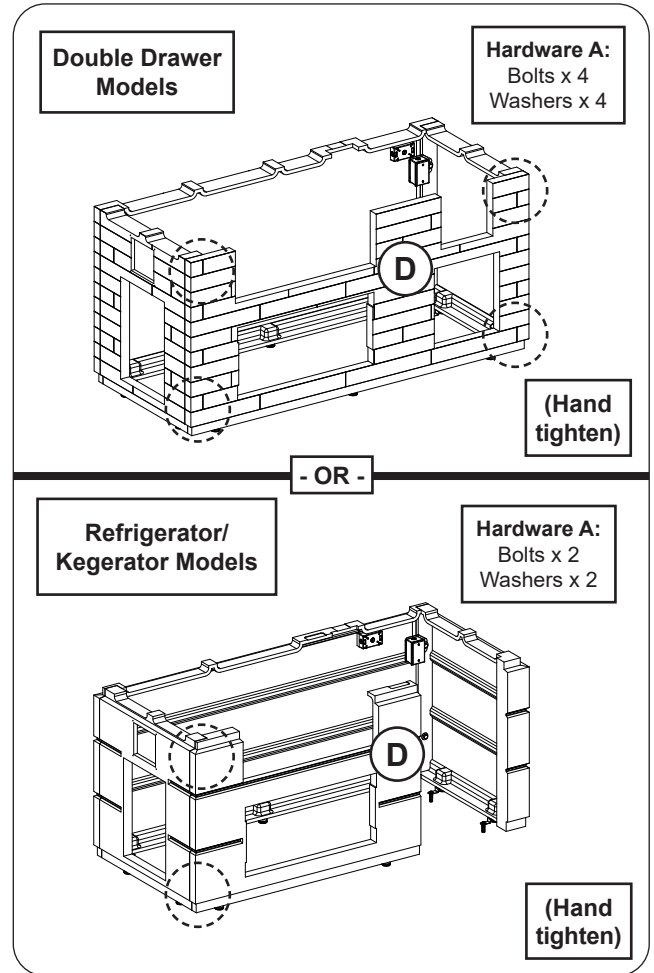

Fig. 9-1 Assemble front wall
Double drawer models: Orient the front wall (D) and repeat the hardware installation process (hardware kit A). Hand tighten only. See Fig. 9-1.
Refrigerator/Kegeerator models: Orient the front wall (D) and repeat the hardware installation process to fasten it to the left side wall. See Fig. 9-1.